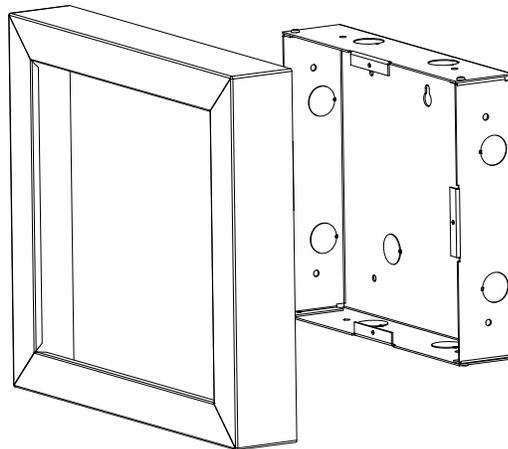

**Figure 4.25 Attaching Annunciator / Door Assembly to Backbox**
- Attach the door assembly to the backbox using the screws provided. Refer to Figure 4.25.